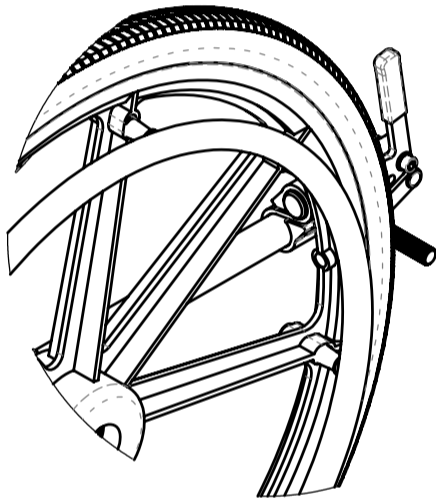

Figure 14.34: Attendant Wheel Lock (Push to Lock)
3. To engage the attendant wheel lock (see Figure 14.34), pull the lever towards the wheel until it locks into place.